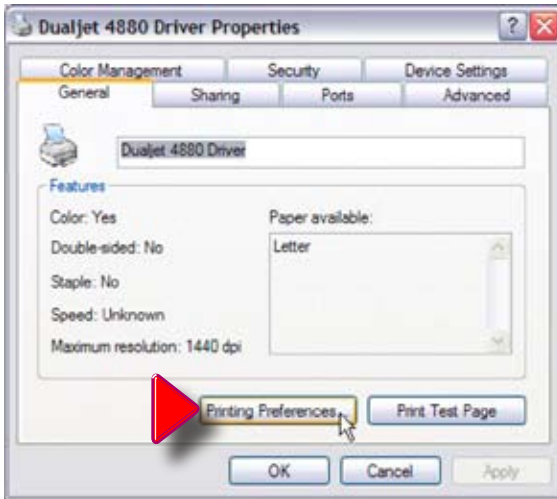

Figure 3
3. In the “DualJet 4880 Driver Properties” Window, click on the “Printing Preferences” Button near the bottom of the screen in Fig. 3.